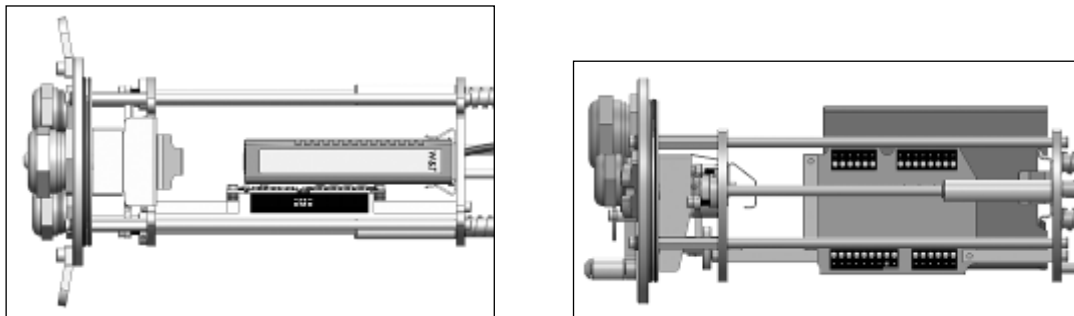

Figure 49 (a + b): Fitting the USB server Gigabit into the chassis (top view and right hand view)
6. Engage the USB server Gigabit to the DIN rail plate (**Figure 49**).